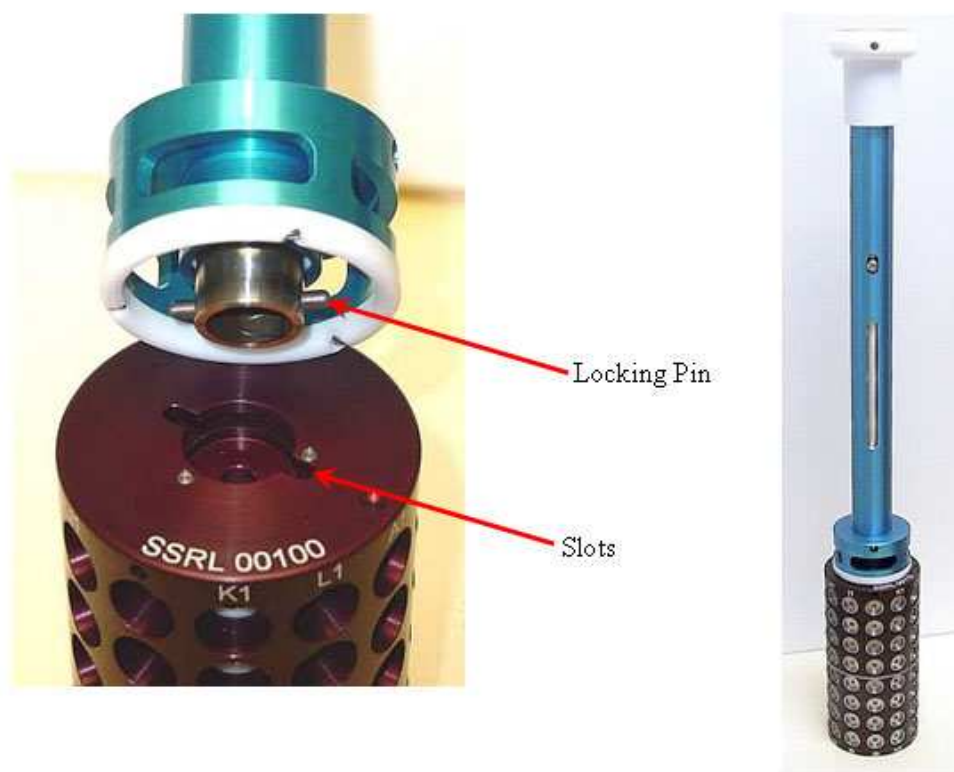

Figure 17: Attaching transfer handle to cassette
The transfer handle is used to safely transport cold cassettes. To attach the transfer handle (D) to a sample cassette (A) (fig.17) first place the locking pins into the slots at the top of the cassette. Then push down the handle, and rotate clockwise until the handle locks in place.